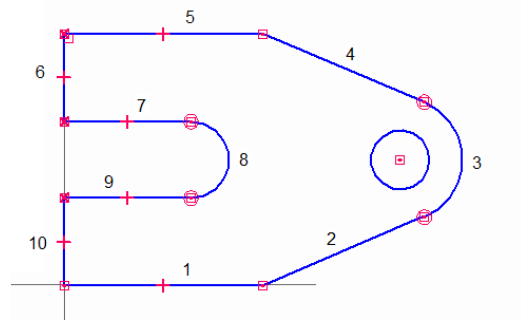

Figure 3-41 Profile after drawing all entities
- d. Draw the required profile by using the **Line** and **Circle by Center Point** tools, refer to Figure 3-41.
- e. Add the required relationships and dimensions to the sketch, refer to Figure 3-41.
While drawing the circle, if the center point of the arc is not displayed, then move the cursor over the arc to display its center point. Use this center point to define the center point of the circle. The profile after drawing all entities is shown in Figure 3-41. For your reference, the entities in the sketch are indicated by numbers.